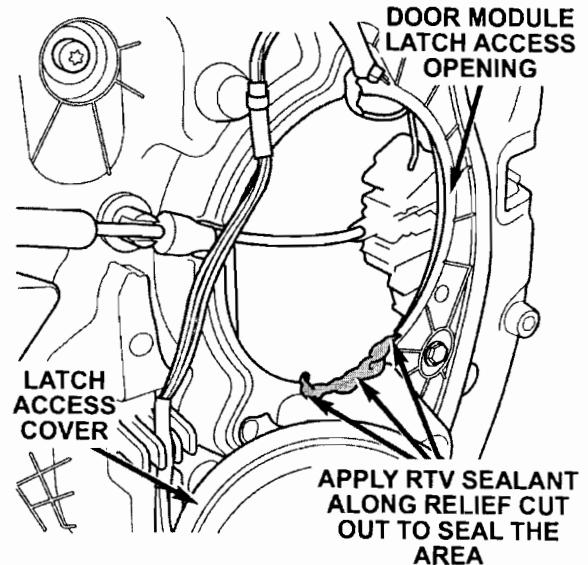

Figure 11
34. Apply a bead of RTV sealant (P/N 82300234) or equivalent to the edge of the door module latch access opening relief cutout (Figure 11).